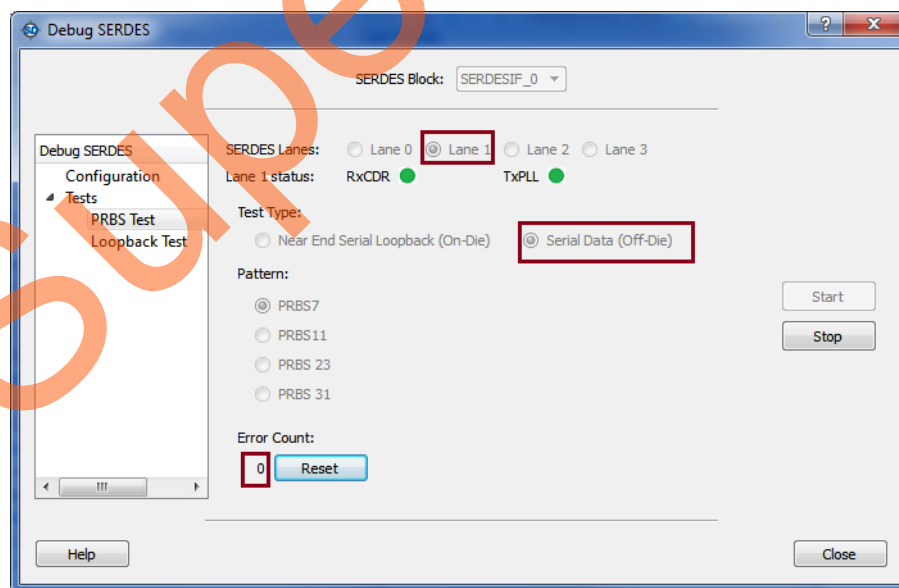

Figure 32 • Lane 1 Transmitting Data Through On-Board Loopback
5. The Evaluation Kit board connects Lane 1 on the PCB to loop back Tx and Rx. This loopback demonstrates a complete path with data transmitted and received. For example, select **Lane 1**, **Serial Data (Off-Die)**, **PRBS7**, and click **Start**, as shown in Figure 32. This test generates and checks PRBS7 data going off-chip and folded back on the PCB to the receiver.